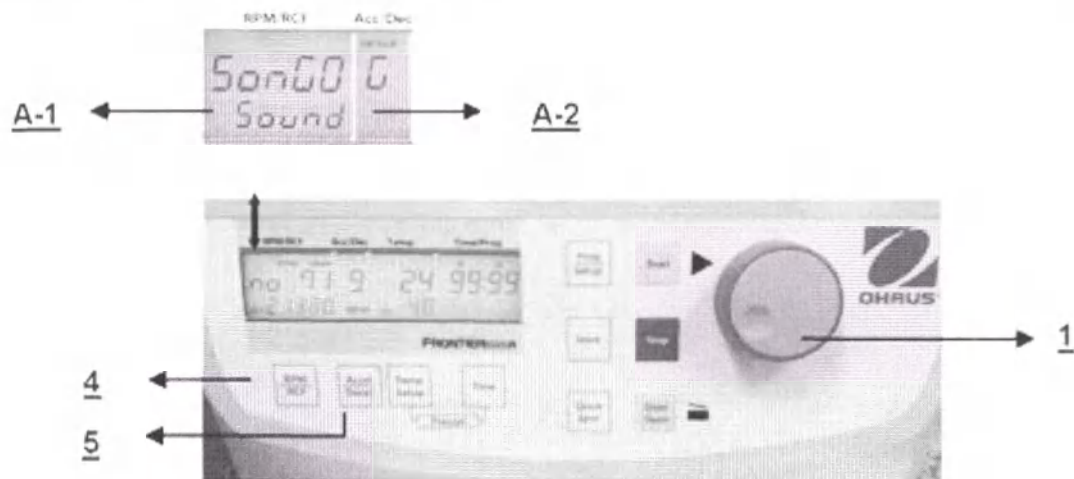

Figure. 35
Proceed as described under point 4.1.2 to enter this program mode and then press the key **"Accel/Decel"** (5). In the display **"Acc/Dec"** (A-2) the word **"Service"** flashes. Now select the letter **"G"** with the adjusting knob (1). As a result, in the display **"RPM | RCF"** (A-1), the word **"SonGo/Sound"** appears. After pressing the key **"RPM | RCF"** (4), you can select a song with the adjusting knob (1). (See figure 35).